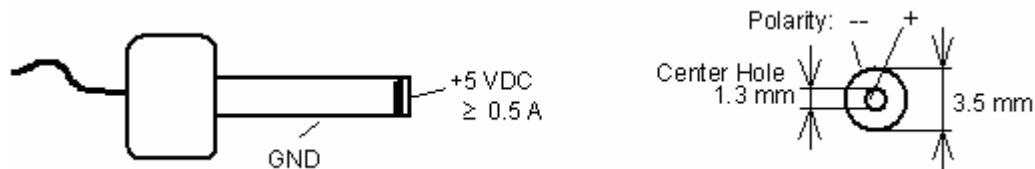

Figure 2: Power Connector
- Connect the included 5V power adapter to the power socket X304 on the phyCORE Carrier Board (refer to Figure 2 for the correct polarity).